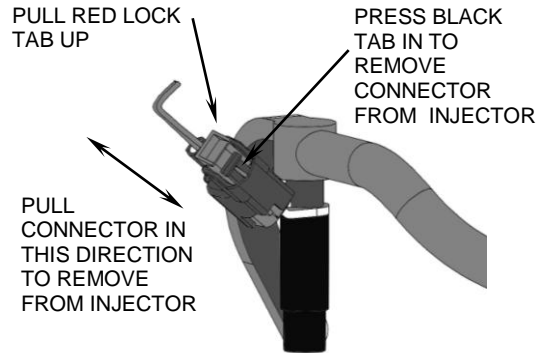

FIGURE 6
8. From left side of motorcycle, locate the rear fuel injector connector between cylinder heads, see Figure 5. Pull the "RED" pull tab up towards the top portion of the connector, assistance will be needed to prevent the injector from rotating during this procedure, see Figure 6. Once the Red tab is pulled upward, push in on the black tab below it, see Figure 6 & 7. While pushing in on black tab, pull entire connector upward and remove from injector. Right angled long nose pliers and assistance with a flat blade screwdriver from left side of engine will help with this. It may be necessary to snip the zip tie from the injector wires to the fuel rail, to allow adequate wire length to free connector from injector. Pull injector connector outward towards left side of motorcycle. Install the shorter (closer to PPT module), female connector onto rear injector. Mate stock female connector with male PPT connector. Be sure all connectors seat firmly and Red lock tab on stock female connector is locked, see Figure 8.
9. Locate front cylinder injector connector from left side of motorcycle, Figure 5. Pull Red lock tab upward, see Figures 6 and 7, depress black tab under it and pull connector straight up and free from injector. Mate the longer PPT female connector to the front injector and seat firmly, see Figure 8. Mate the PPT male connector with stock female connector and seat firmly together. Depress red lock tab on stock connector.